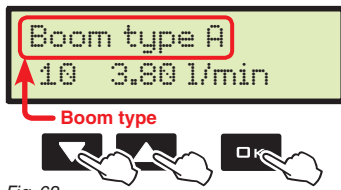

Fig. 63
- First select the job to be set (Fig. 63).
Press **OK** in this screen to confirm the setting of the entire boom type and automatically go back to the type selection (Fig. 63).